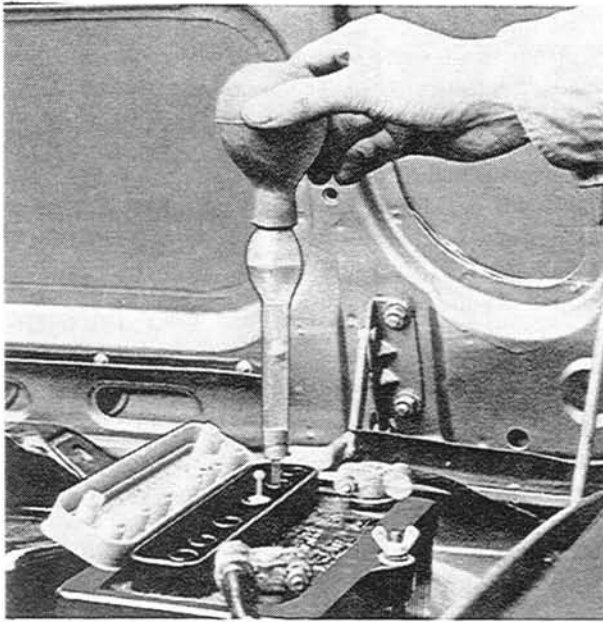

Fig. 5-1 Checking of specific gravity
2. Check the specific gravity of the electrolyte with a hydrometer, as shown in Fig. 5-1. If the reading is 1.26 or more, it indicates that the battery is fully charged. If the reading is below 1.20, the battery requires recharging.